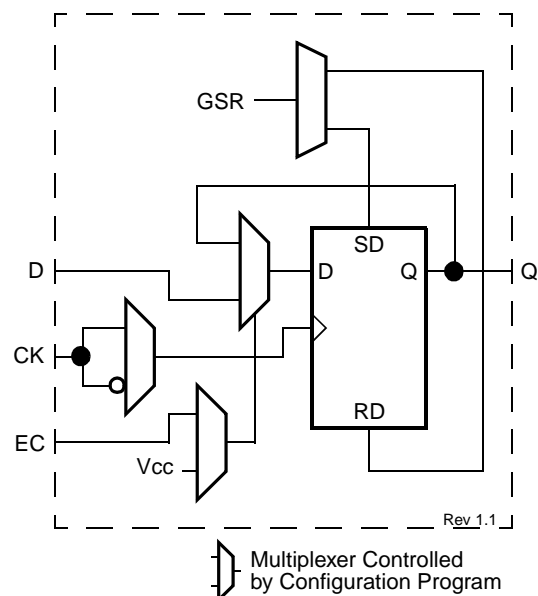
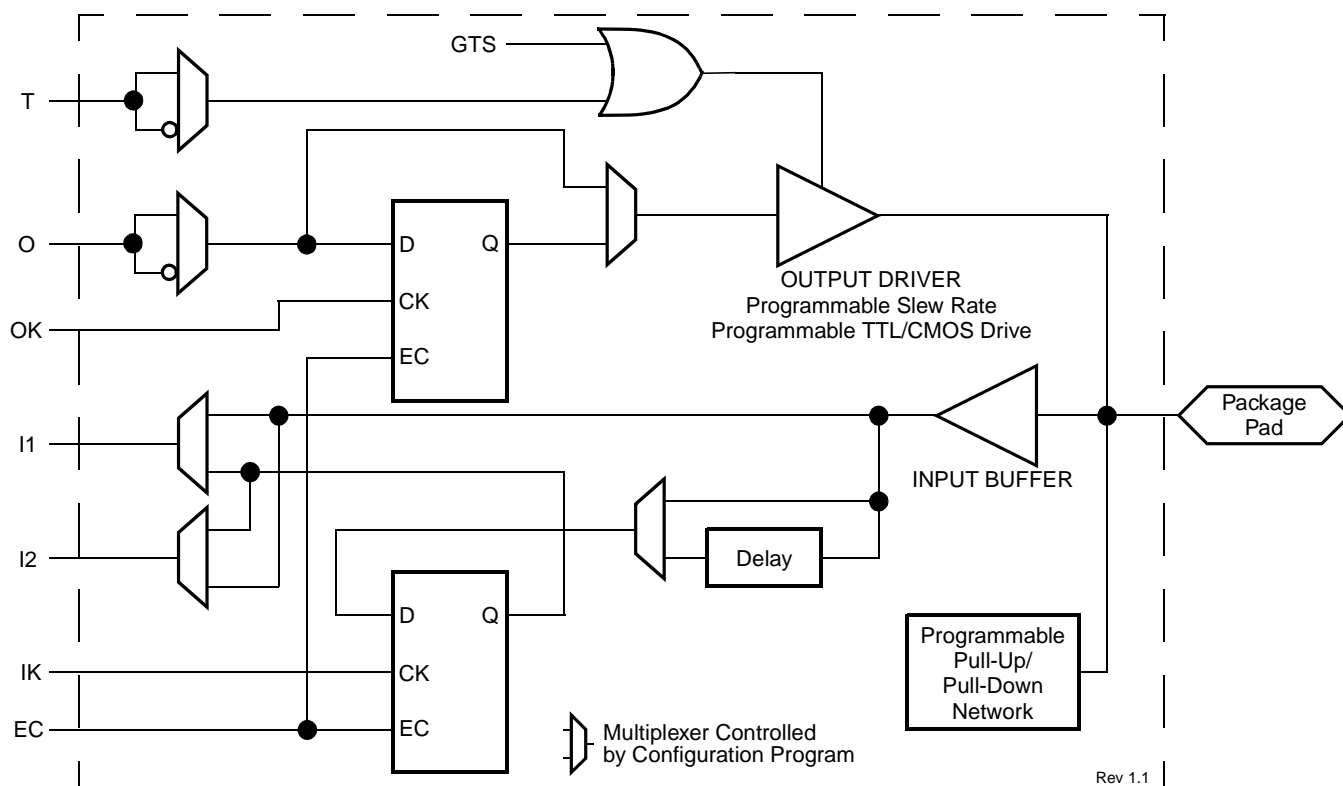

Figure 6: IOB Flip-Flop/Latch Functional Block Diagram
Figure 5: Simplified Spartan/XL IOB Block Diagram
User-configurable input/output blocks (IOBs) provide the interface between external package pins and the internal logic. Each IOB controls one package pin and can be configured for input, output, or bidirectional signals. Figure 5 on page 66 shows a simplified functional block diagram of the Spartan/XL IOB.
The input signal to the IOB can be configured to either go directly to the routing channels (via I1 and I2 in Figure 5) or to the input register. The input register can be programmed as either an edge-triggered flip-flop or a level-sensitive latch. The functionality of this register is shown in Table 40, and a simplified block diagram of the register can be seen in Figure 6.
The register choice is made by placing the appropriate library symbol. For example, IFD is the basic input flip-flop (rising edge triggered), and ILD is the basic input latch (transparent-High). Variations with inverted clocks are also available. The clock signal inverter is also shown in Figure 6 on the CK line.
The output of the input register goes to the routing channels (via I1 and I2 in Figure 5). The I1 and I2 signals that
An active High 3-state signal can be used to place the output buffer in a high-impedance state, implementing 3-state outputs or bidirectional I/O. Under configuration control, the output (O) and output 3-state (T) signals can be inverted. The polarity of these signals is independently configured for each IOB (see Figure 5 on page 66). An output can be configured as open-drain (open-collector) by tying the 3-state pin (T) to the output signal, and the input pin (I) to Ground.
As with the CLB registers, the GSR signal can be used to set or clear the input and output registers, depending on the value of the INIT attribute or property. The two flip-flops can be individually configured to set or clear on reset and after configuration. Other than the global GSR net, no user-controlled set/reset signal is available to the I/O flip-flops (Figure 6). The choice of set or reset applies to both the initial state of the flip-flop and the response to the GSR pulse.
The input and output flip-flops in each IOB have a common clock enable input (see EC signal in Figure 6), which through configuration, can be activated individually for the